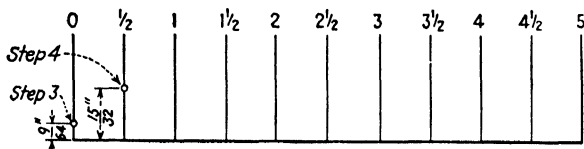

Fig. 177.
Step 3.—At station 0, the data shows that the upper camber is $\frac{9}{32}$ in. above the datum line. Mark this point as shown in Fig. 177.